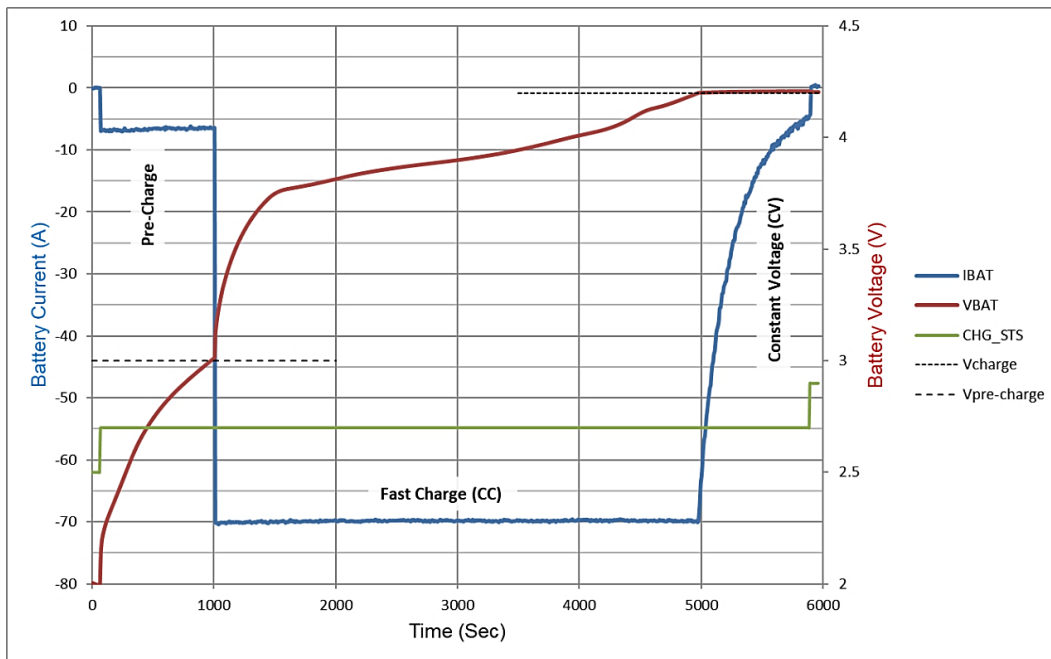

Figure 23: Typical Charging Example
Charging current operates in three regions based on battery voltage: pre-charge, fast charge (CC), and constant voltage (CV). These regions are shown in the typical charging example of Figure 23. The charge status (shown as CHG_STS in the graph) is also shown transitioning from the **charge ready** to **charge in-progress** to **charge done** states.